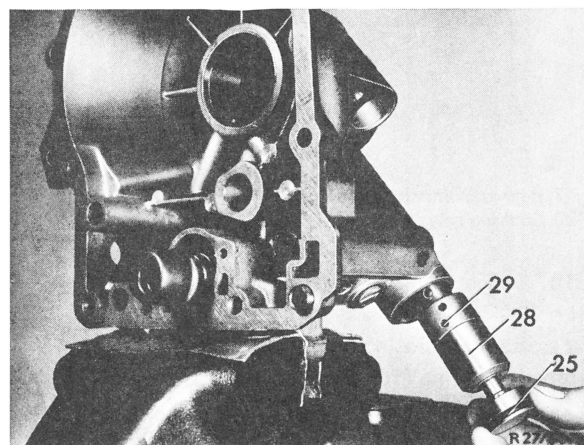

Fig. 3
**7** Remove secondary pump (28) from rear transmission case (Fig. 3).
**17** Introduce secondary pump (28) into rear transmission case until the fastening bore (29) is in alignment with the bore in transmission case (Fig. 3).